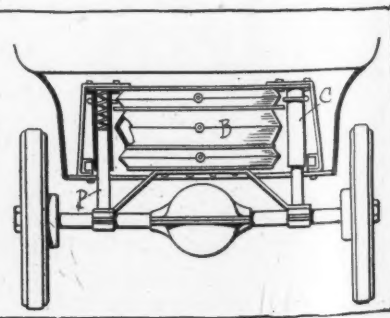

FIG. 3—PNEUMATIC BODY SUSPENSION
**Pneumatic Suspension**—No. 1,026,893, dated May 21; to Fred I. Baker, Orange, Mass.—This patent relates to a pneumatic rear frame or body support for motor cars, designed to replace the rear springs. As shown in Fig. 3, the mechanism comprises bellow-like, non-communicating air compartments, inflated to different degrees of pressure; means of securing the upper and lower compartments to the vehicle body and axle respectively, and telescoping compression devices arranged at either side of the inflated air compartments. The bellow-like pneumatic compartments B support the greater portion of the body weight, whilst the compression members, comprising coil springs arranged between the plungers P and cylinders C, serve to steady the body. The object of this construction is to increase the comfortable riding qualities of the car and perhaps do away with the necessity of using pneumatic tires, solid rubber tires being indicated on the wheels of the vehicle shown in the illustration.